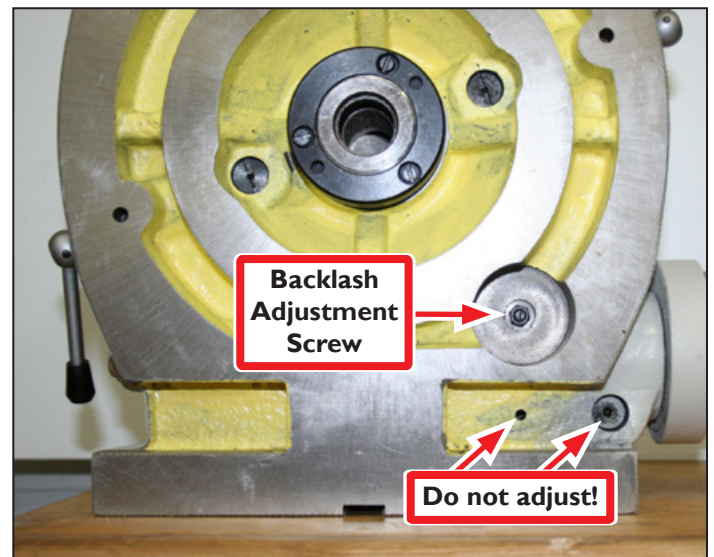
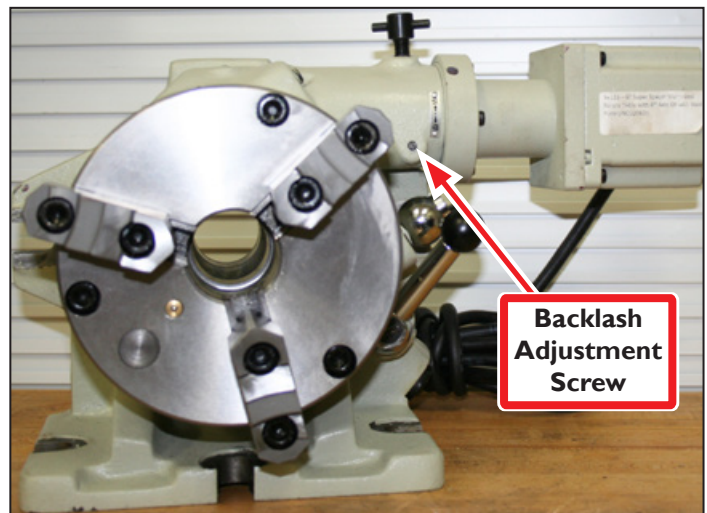

Figure 26
Figure 28
1. Backlash is adjusted by positioning of the Backlash Adjustment Screw. For the Standard Table, see **Figure 26**; for the Tilting Table, see **Figure 27**; and for the Super Spacer Table, see **Figure 28**.